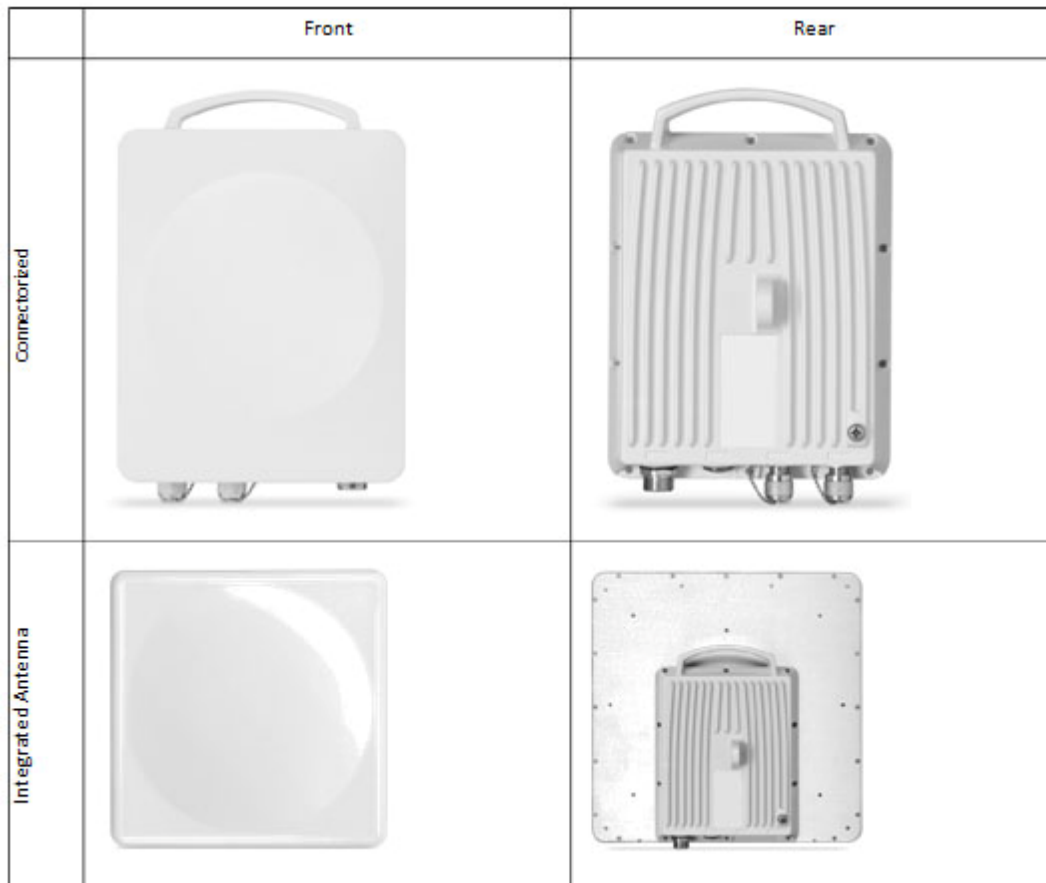
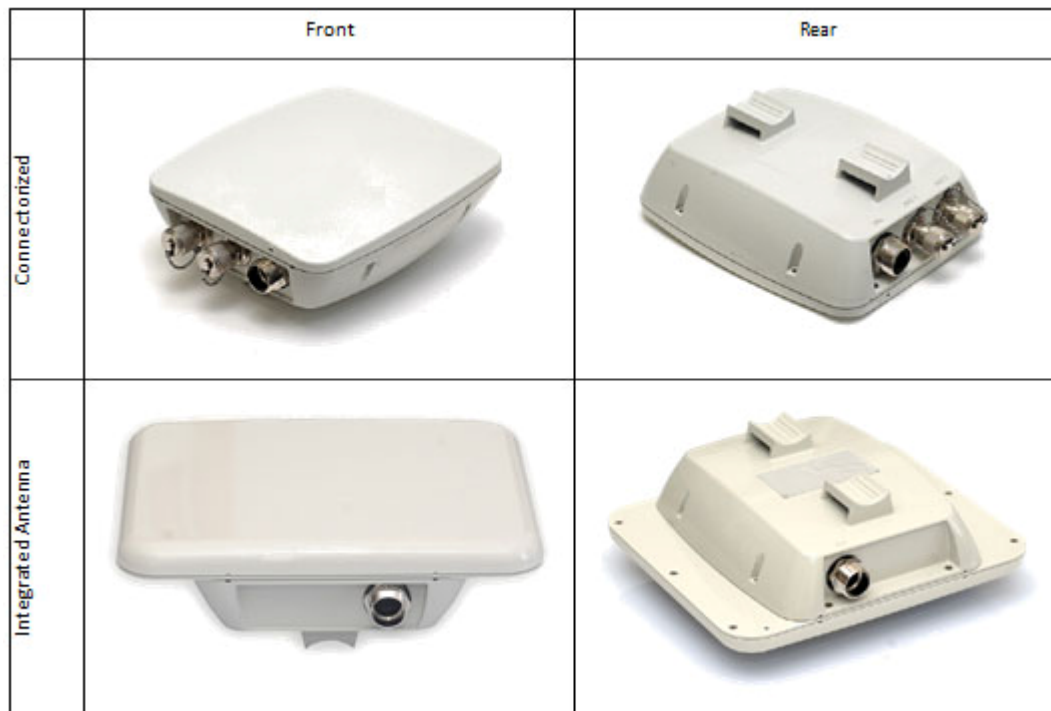

Figure 3-1: Large HBS and HSU Form Factors
Figure 3-2: Small Form Factors HSU
- One HSU - Large form factor as in Figure 3-1, small form factor as in Figure 3-2.
Further to Figure 3-2 above: